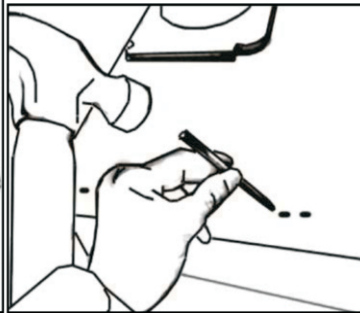

Figure 2
- Additionally, you will need to knock out the screw holes located on the left and right side of the top of the hood as shown in Figure 2.